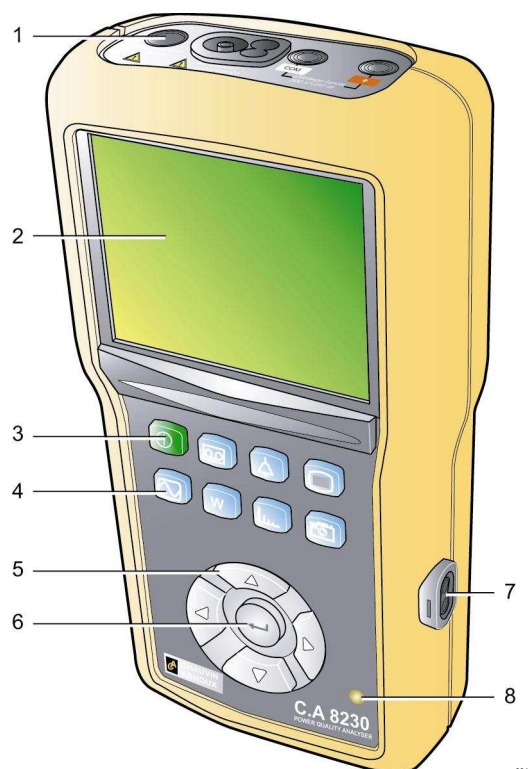

Figure 1: Overall view of the C.A 8230.
This light (Figure 1, item 8) (yellow LED), located at the bottom right of the instrument, is lit:
This provides an optical, and therefore isolated, two-way connection (Figure 1, item 7) between the C.A 8230 and a PC for transmission of the information in memory (alarms, screen grabs, motor starts, records) and all instantaneous measurements and waveforms displayed on the screen of the C.A 8230.
Note: when the mains power unit is connected, the orange indicator (Figure 1, item 8) lights.